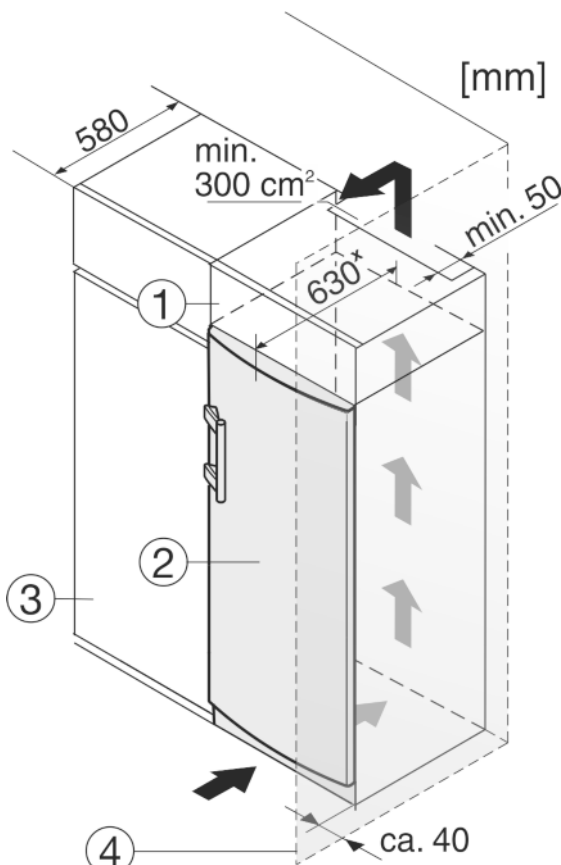

Fig. 10
- (1) Top cupboard
- (2) Appliance
- (3) Kitchen cabinet
- (4) Wall
The appliance can be built into kitchen units. A top cupboard *Fig. 10 (2)* can be added above the appliance in order to bring the appliance *Fig. 10 (1)* up to the height of the fitted kitchen units.
If you are integrating the appliance into a kitchen unit (max. depth 580 mm) you can install it right next to the kitchen cabinet *Fig. 10 (3)*. The appliance measures 34 mm x at the side and 50 mm x at the centre in relation to the front of the kitchen cabinet.
If you are installing the appliance with the hinges next to a wall *Fig. 10 (4)*, the distance between the appliance and the wall must be at least 40 mm. This is how far the handle protrudes when the door is open.